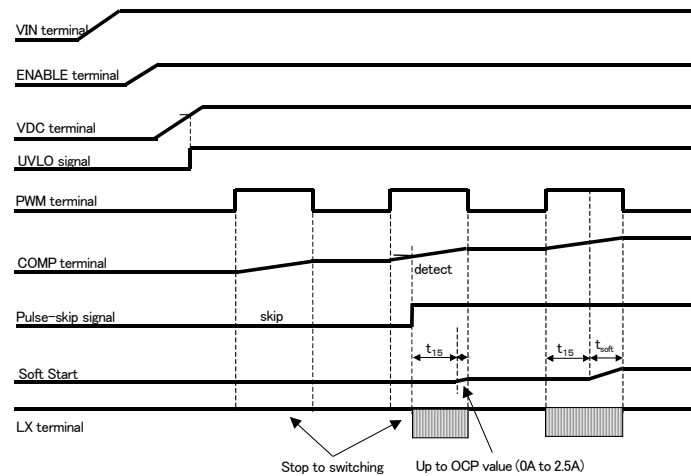

Figure 41. Soft Start
- Regulator (VDC) is operated after ENABLE=H. Inner circuit is operated after releasing UVLO. When boosting after releasing UVLO, soft start function is operated. Soft start circuit needs t_{15} (more than $5\mu\text{s}$) such as Figure 41. Soft start is operated during Tsoft time. Set PWM width "H" until soft start finishes.